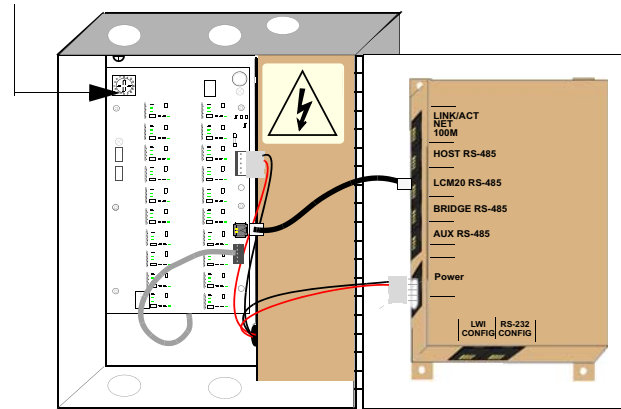

Figure 8: LCM20 Board Placement
- 3 Set the rotary address switch to position 0. Refer to Figure 8.